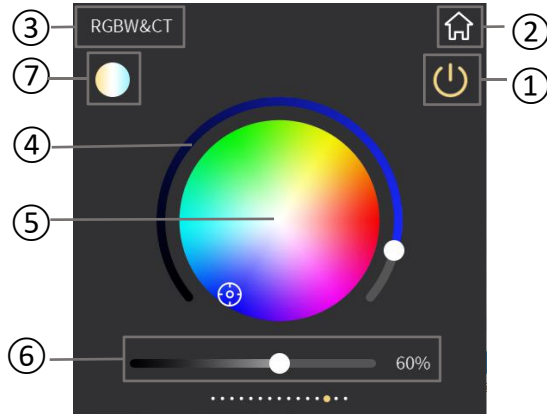
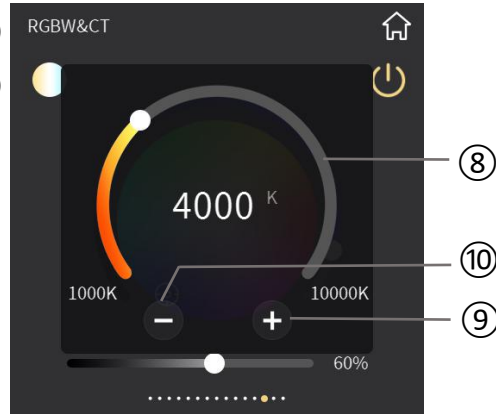
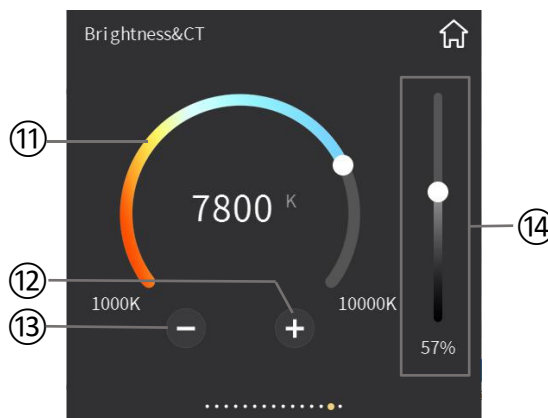

Fig.2.7.3
Fig.2.7.4
Fig.2.7.5
⑥ **This slider for adjusting the brightness of white light, sliding the slider to adjust the brightness effect of white light.**
When RGB dimming is configured as RGBW+Color Temperature, function page interface is similar to RGB but more a slider⑥ in the bottom, as shown in Fig.2.7.3 and Fig.2.7.4. The adjustment of the white light is independent of the RGB type, RGB color adjustment refers to that of RGB type above, which is no longer described herein.
⑦ **Enter the color temperature controlling interface by touching this icon, as shown in Fig.2.7.4;**
⑧ **This ring slider is to adjust the color temperature of RGB lamp;**
⑨ **Increase the color temperature value by touching this icon;**
⑩ **Decrease the color temperature value by touching this icon;**
Color temperature control interface shown as Fig.2.7.4, by sliding the ring slider⑧ or touching the icon⑨ and icon⑩ to control the color temperature of RGB lamp, the adjustment range for each touch of icon⑨ or icon⑩ is 100K. After finishing the adjustment, touch the area outside the sub-window to return to the previous level function page, as shown in Fig.2.7.3.
⑪ **This ring slider is to adjust the color temperature of RGB lamp;**
⑫ **Increase the color temperature value by touching this icon;**
⑬ **Decrease the color temperature value by touching this icon;**
When RGB dimming is configured as Brightness+Color Temperature, function page interface shown as Fig.2.7.5. Sliding the ring slider⑪ or touching the icon⑫ and icon⑬ to change the color temperature value, the adjustment range for each touch of icon⑫ or icon⑬ is 100K.
⑭ **Adjust the brightness of the lamp by sliding this slider.**